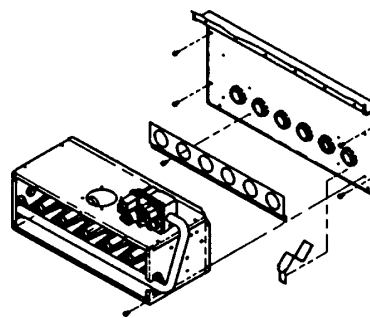

Figure 4
4. Remove metal screen inserts from the entrance of the heat exchanger tubes. See Figure 4 and follow the a,b,c directions. Some models do not have metal screen inserts.